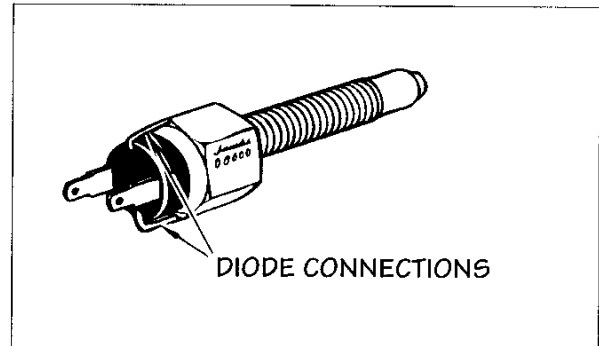

FIG. 1.1.5
5. Current style buffer switches include a two-diode system for switch protection. The two-diode type switch is not polarity sensitive and electrical connections can be made to either terminal (see Fig. 1.1.5). This switch must only be used with negative ground systems.